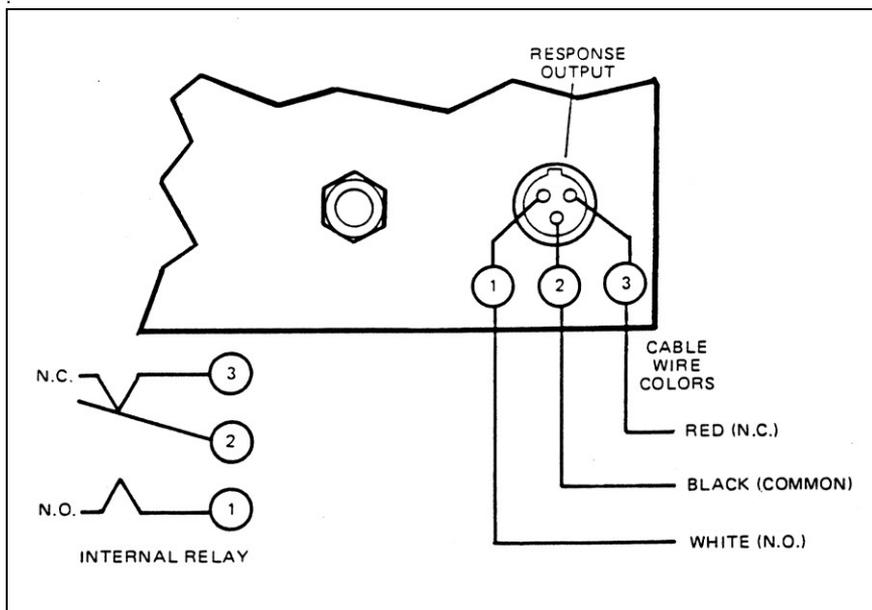

Figure 5: Response Jack Wiring
**Note:** See Figure 5, page 15. If the patient response switch of the audiometer is normally open, use the WHITE and BLACK wires of the RESPONSE CABLE. If the patient response switch of the audiometer is normally closed, use the RED and BLACK wires. If a single pole double throw contact arrangement is required, use the BLACK wire as the common, the WHITE wire as normally open, and the RED wire as normally closed.